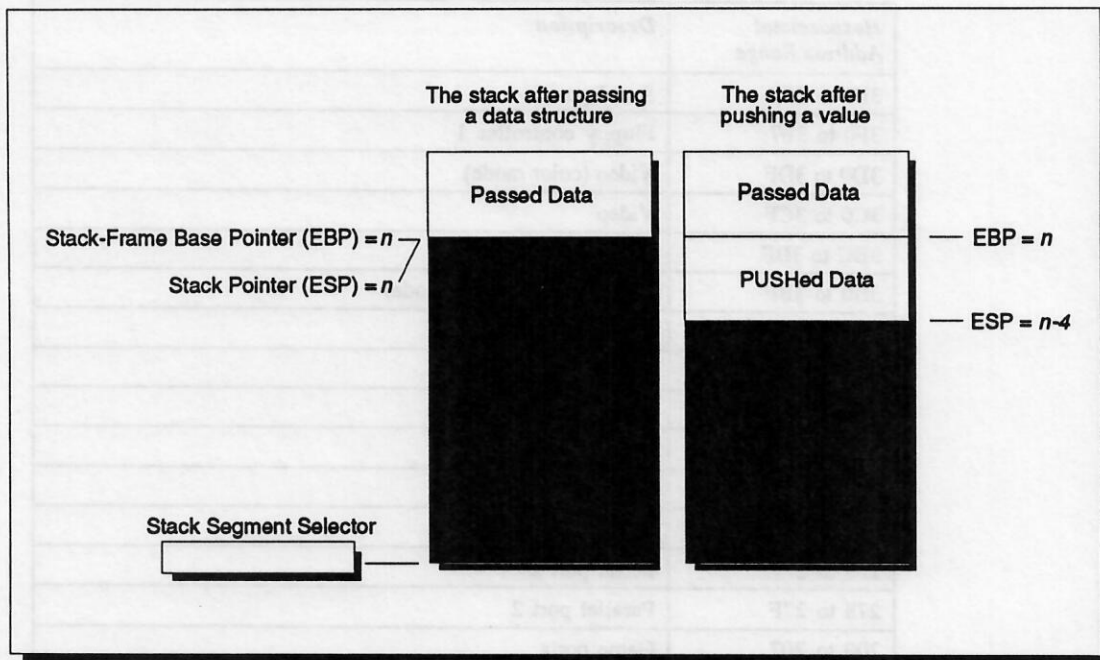

Figure 49 Stack Mechanism
In Protected Mode, multiple stacks can be maintained in separate segments. The stack-segment selector points to the current stack. The *stack frame* consists of a stack-frame base pointer (stored in the EBP general register) and a stack point (stored in the ESP general register). The stack-frame base pointer points to the last entry in a passed data structure. The stack pointer points to the top of the stack—the last entry in the stack after passing a data structure or PUSHing or POPping data. Immediately after a data structure is passed to a subroutine, the stack-frame base pointer and the stack pointer are coincident. Thereafter, if local variables are PUSHed onto or POPed from the stack, the stack-frame base pointer remains the same but the stack pointer changes. Figure 49 shows the mechanism.
- **Stack Operations**—Stack operations use the EBP and ESP registers. The stack frame consists of a stack-frame base pointer (stored in the EBP general register) and the stack point (stored in the ESP general register). The stack-frame base pointer (EBP) points to the last entry in a passed data structure. The ESP is decremented during a PUSH and incremented during a POP. See the section below entitled Stack Operations and Figure 49.